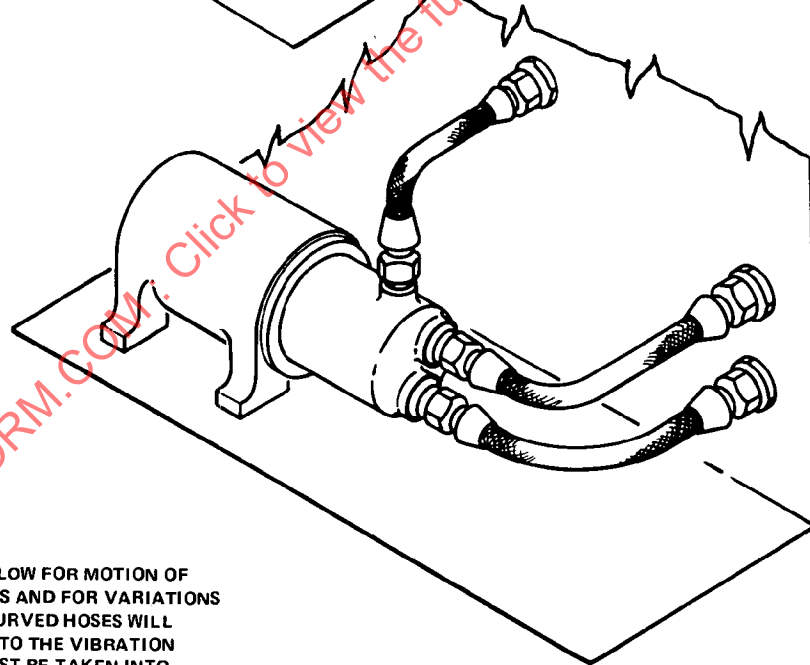

FIGURE 14
- 5.2.8.4 Shock Mounted Equipment: Hoses routed between structure and equipment mounted on shock or vibration mounts should be routed in such a manner that they will neither preload the mounts or restrain the component motion in any direction. (See Fig. 14).